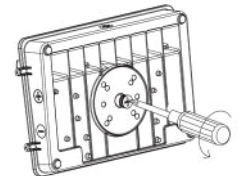

Fig. 1.4
4. Use a screwdriver to remove the plug. Peel and stick the foam pad to the back of the mounting plate (Fig 1.4).